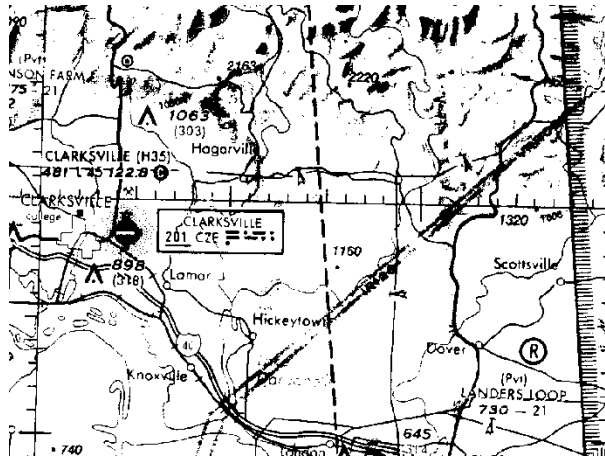

Figure 8-4
Military training routes that may be used by high-speed jet aircraft are identified by one of two designations, depending upon the flight rules under which the military operates when working within that airspace. *Instrument Routes (IR)* and *Visual Routes (VR)* are identified on sectional aeronautical charts by medium-weight solid gray lines with an alphanumeric designation. 4-digit numbers identify MTRs flown at or below 1500 feet AGL; 3-digit numbers identify those flown above 1500 feet AGL. In Figure 8-4 there are two such examples east of the Clarksville Airport symbol -- IR-120, and VR-1102.